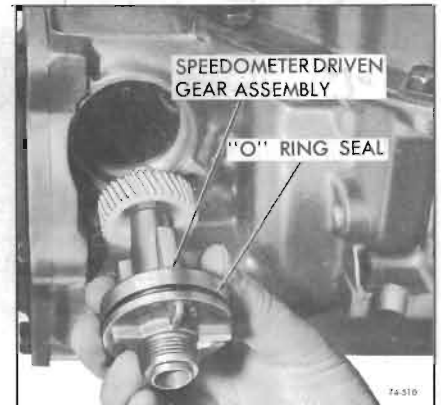

Figure 74-510
4. Withdraw speedometer driven gear assembly from case. See Figure 74-510.